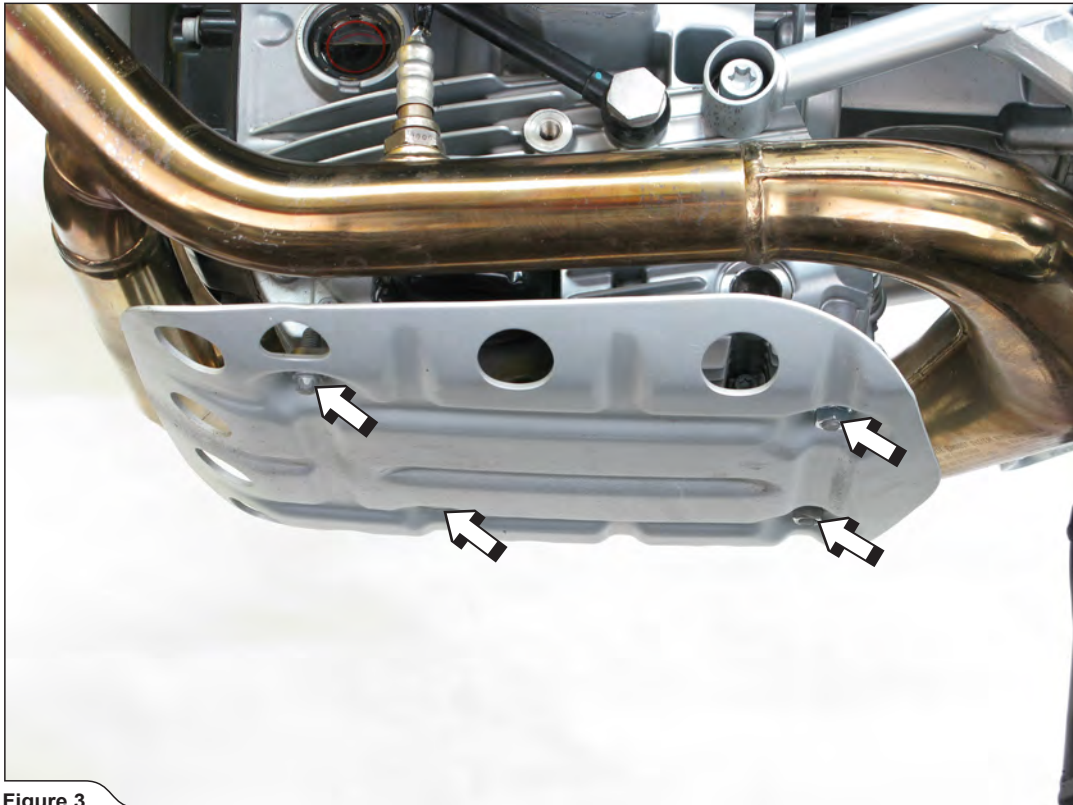

Figure 3
4. Unscrew and remove the belly shield off the motorcycle (**Figure 3**).